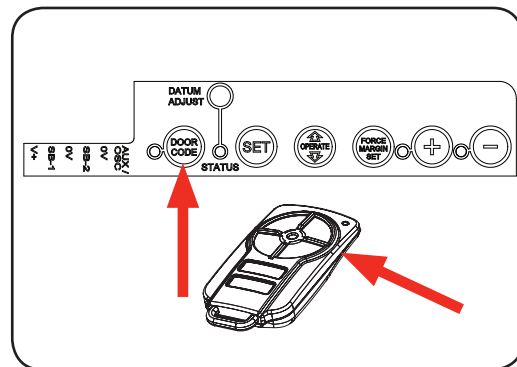

Fig.28
Step 13.4 - Setting the Transmitter to Operate the Auxiliary Output (Fig.28)